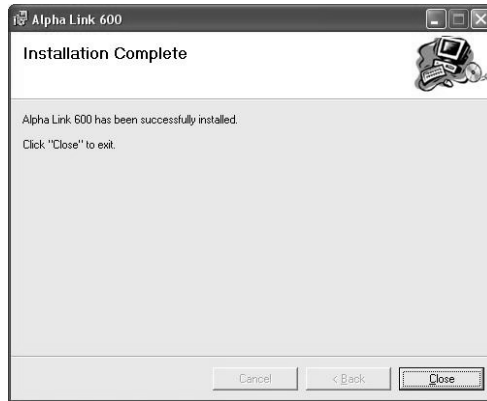

Figure 4 : Installation completed
5. The following screen is displayed upon successful installation of the program (Figure 4). Click **Close** to exit the wizard. **Do not remove the installation CD from your CDROM drive.**